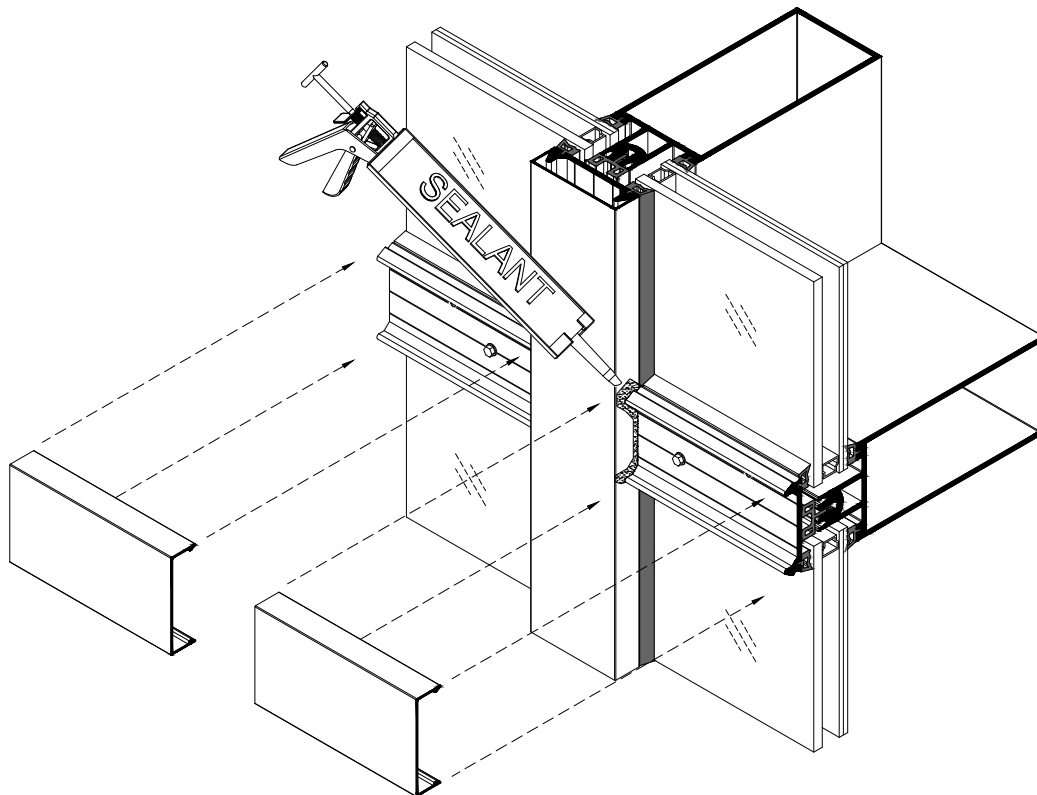

Fig.42.2
- K. Seal the horizontal pressure plates to the vertical face covers, tooling the sealant into the joint. See Fig.42.2.